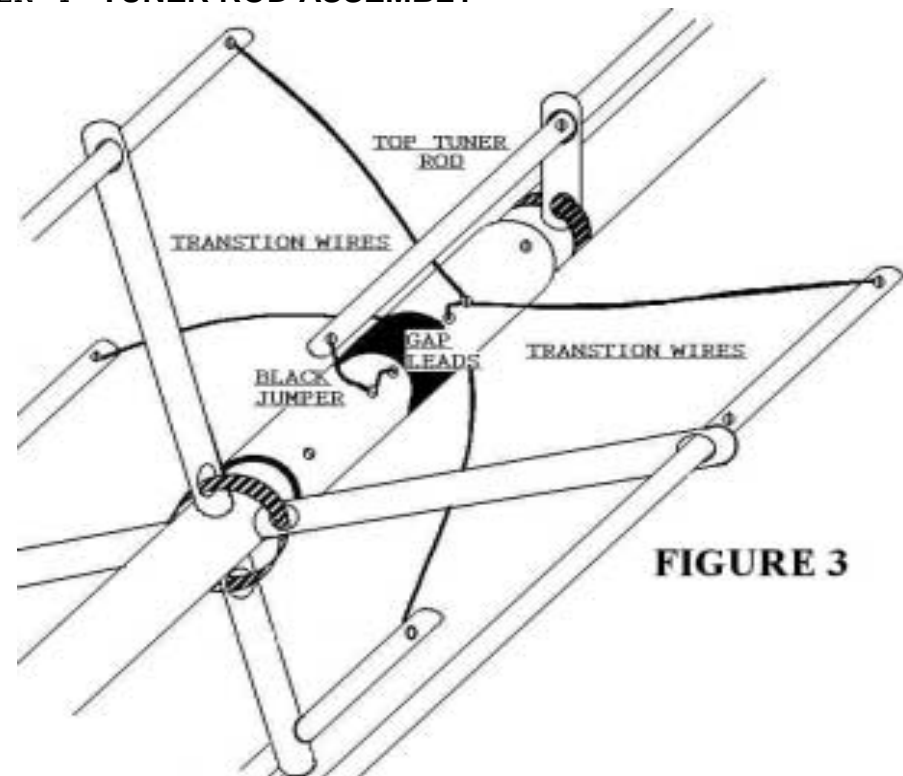

FIGURE 3
- C) Slide the tuner rod toward the GAP. Locate a black jumper. Remove the screw holding the lower GAP lead, see fig. 3. Place the black jumper under the screw with the GAP lead, reinsert and tighten.
- I) Align the holes on the insulator with the holes in the Mid Section. Place a screw and washer through the remaining ring terminal on the short yellow GAP lead coming out from the center insulator. Insert this screw in the hole closest to where the lead comes out of the center insulator. See figure 3. Insert the remaining 3 screws and tighten. Leave the standoffs as is, for the moment.